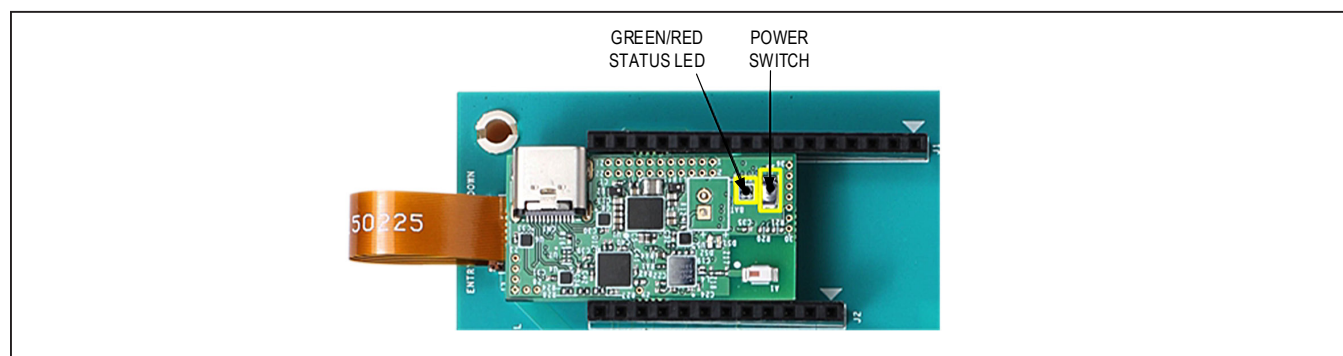

Figure 1. Power Switch for the MAX30009EVKIT# EV Kit
- 1) Confirm that the MAXSENSORBLE_EVKIT_B microcontroller (MCU) board is connected to the MAX30009_EVKIT_B board through the flex cable as shown in Figure 1.
- 6) **Press** and hold the **power switch (SW)** for 1 second to turn on the EV kit (see power switch location in Figure 1). When powered on, the green status LED indicator will toggle.